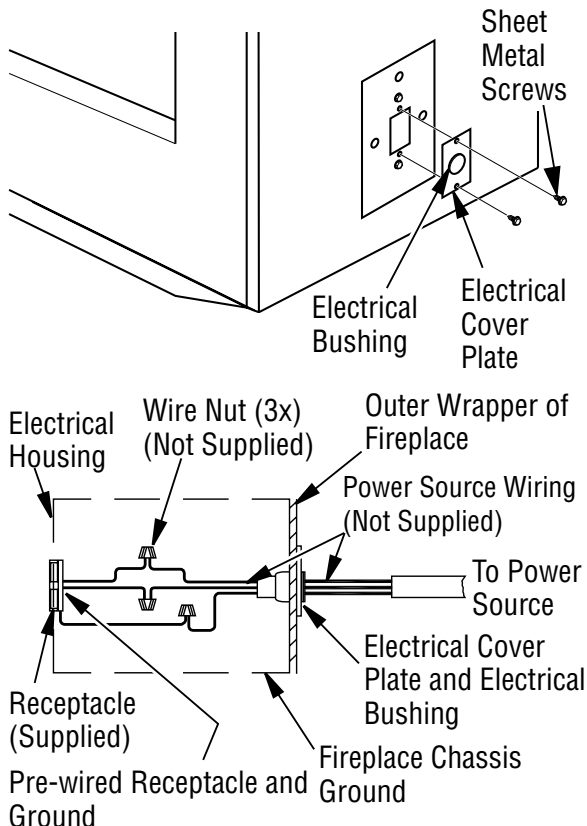

Figure 11 - Fan Switch-Electrical Bushing
1. Remove electrical cover plate with bushing from fireplace by removing 2 sheet metal screws as shown in *Figure 11, Page 13*.
3. Slide all wiring connections in electrical housing as shown in *Figure 11*.